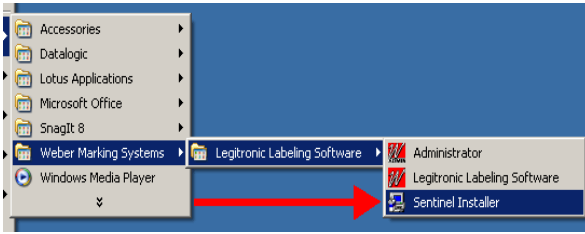

Figure 3-2a
3.1.3. After Legitronic is installed, go to the Windows Program Group that the installation created and run the *Sentinel Installer* program. (Figure 3-2a-b)